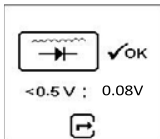

Fig.55
- Wait for the countdown from 10 to 0. As soon as it reaches 0, the results will automatically display as example (Fig.55) shown below.